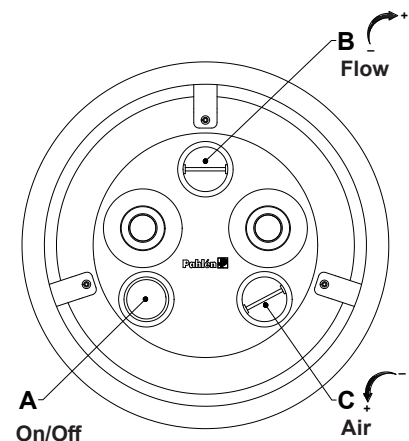

Figure 1.
8. Make sure that the pump's direction of rotations is consistent with the flow of the system. Open the valves. Completely fill the pump with water before starting it with the push-button(A fig.1) on the stainless steel front.
9. The flow can be controlled with the knob (B fig. 1) above the outlet nozzles. Air can be added to the water streams using the knob (C fig. 1) below the outlet nozzles.
9. The flow can be controlled with the knob (B fig. 1) above the outlet nozzles.
Air can be added to the water streams using the knob (C fig. 1) below the outlet nozzles.
The Jet Swim pump is started and stopped by air impulse via the pushbutton (A) on the stainless steel front; see figure 1.
The flow of water can be controlled using the knob (B) above the outlet nozzle; see figure 1.
Air can be added to the water streams using the knob (C) below the outlet nozzles; see figure 1.